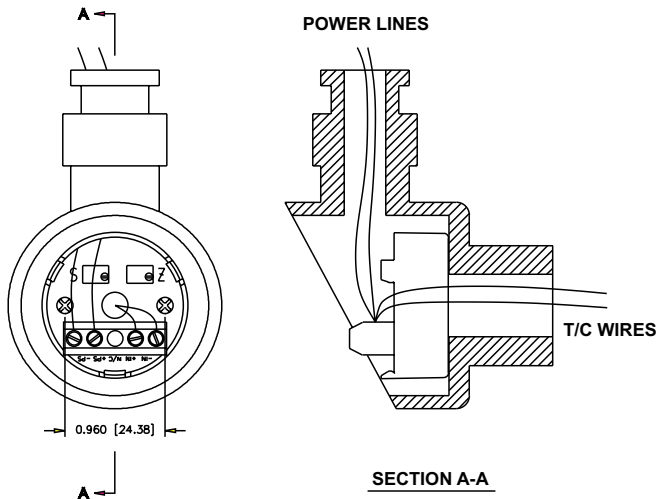

Figure 2-1 Assembly of the Transmitter inside an NB2 Protection Head
If the transmitter is mounted inside a protection head, (see **Figure 2-1**), the thermocouple extension wires are replaced by two copper wires that carry the 4-20mA signal and dc voltage to operate the transmitter.
2. mounted inside a protection head (shown in **Figure 2-1**)